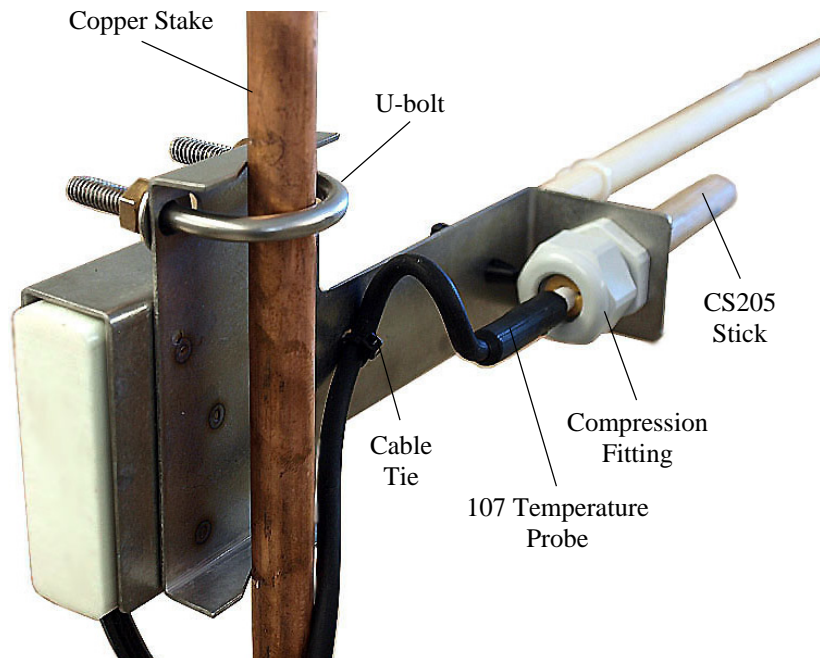

FIGURE 6-1. Back view of the 26817 fuel moisture/temperature mounting stake
The CS205/107 is typically mounted with the CS506/26601 using the 26817 Mounting Kit (FIGURE 6-1 and FIGURE 6-2). The kit's bracket places the probes in a horizontal position.
10. Use the ultraviolet light resistant cable ties included in the 26817 mounting kit to secure the cables. One cable tie passes through the two slots in the bracket to loosely secure the cable of the CS205/107 (FIGURE 6-1). The other two cable ties secure both cables to the copper stake (FIGURE 6-2).